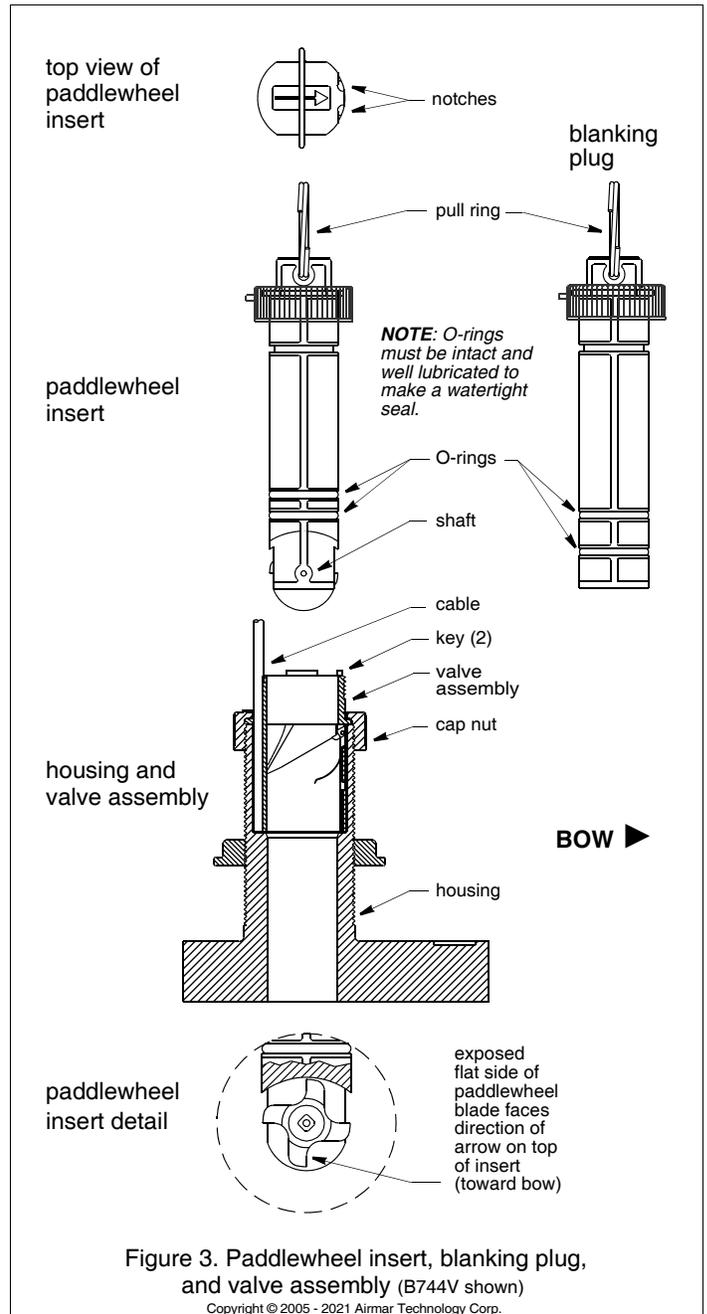

Figure 3. Paddlewheel insert, blanking plug, and valve assembly (B744V shown)
1. All the O-rings must be intact and well lubricated to make a watertight seal. After the sealant cures, inspect the O-rings on the paddlewheel insert (replace if necessary) and lubricate them with the silicone lubricant supplied (Figure 3).
The multisensor incorporates a self-closing valve which minimizes the flow of water into the vessel when the paddlewheel insert is removed (Figure 3). The curved flap valve is activated by both a spring and water pressure. Water pushes the flap valve upward to block the opening, so there is no gush of water into the boat.
1. All the O-rings must be intact and well lubricated to make a watertight seal. On the blanking plug, inspect the O-rings (replace if necessary) and lubricate them with silicone lubricant or petroleum jelly (Figure 3).
4. Slide the blanking plug into the housing. Seat it into place with a pushing twisting motion until the keys fit into the notches (Figure 3). Screw the INSERT nut in place and **hand-tighten** only. Do not over tighten.
3. Separate the paddlewheel insert from the valve assembly by unscrewing the INSERT nut (Figure 3). Grasp the pull ring and pull slowly upward.
5. To reinstall the valve assembly, inspect the O-rings on the paddlewheel insert (replace if necessary) and lubricate them with silicone lubricant or petroleum jelly to make a watertight seal (Figure 3).
1. Using the new paddlewheel shaft, push out the old shaft about 6mm (1/4"). With pliers, remove the old shaft (Figure 3).